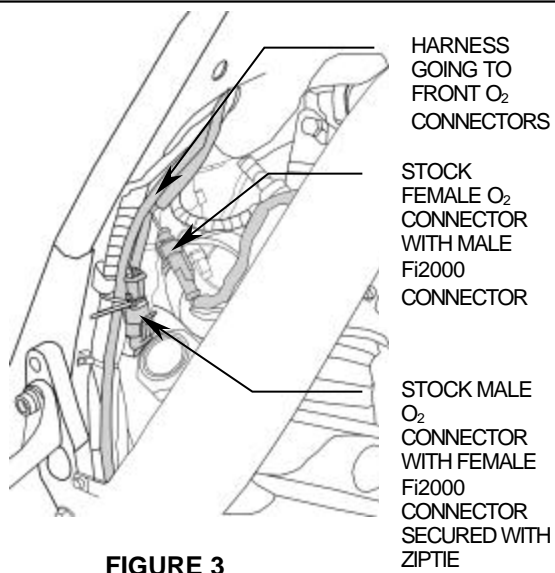

FIGURE 3
6. It is now time to install the oxygen sensor harnesses. In the open area where the Fi2000 module has been placed you will see a round hole (approximately 1" in diameter), in the lower area of the frame. Feed the two O2 sensor harnesses through this hole. Above the transmission on the right side locate the stock rear O2 sensor connection. Unplug this and plug the corresponding Fi2000 connectors from the shorter Fi2000 O2 sensor harness into these connectors see Figure 3.